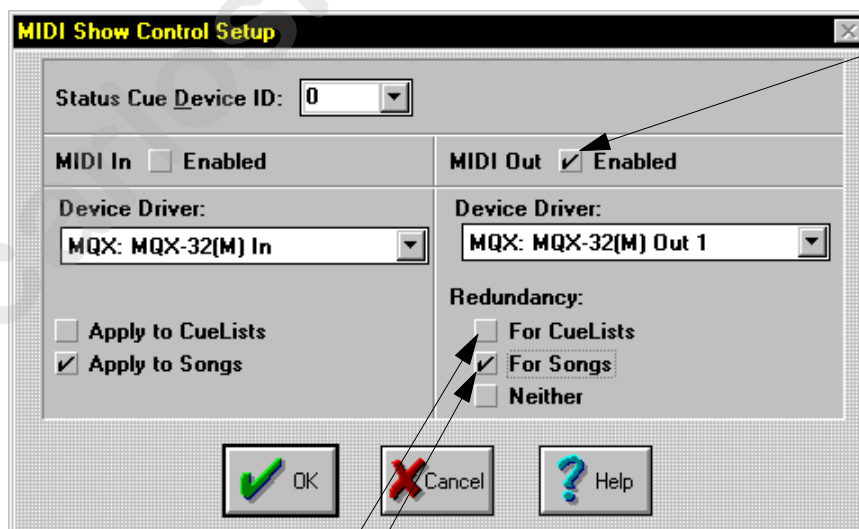

Figure B.2. Main Computer MSC Setup
10. On the main computer, click the **MIDI Out Enabled** box. Then, click either **For CueLists** to enable redundancy for CueLists or click **For Songs** to enable redundancy for Songs. Set the **Status Cue Device ID** from its drop-down menu. The ID must match the backup system. Refer to Figure B.2. Click **OK** to complete the operation and exit the dialogue box.